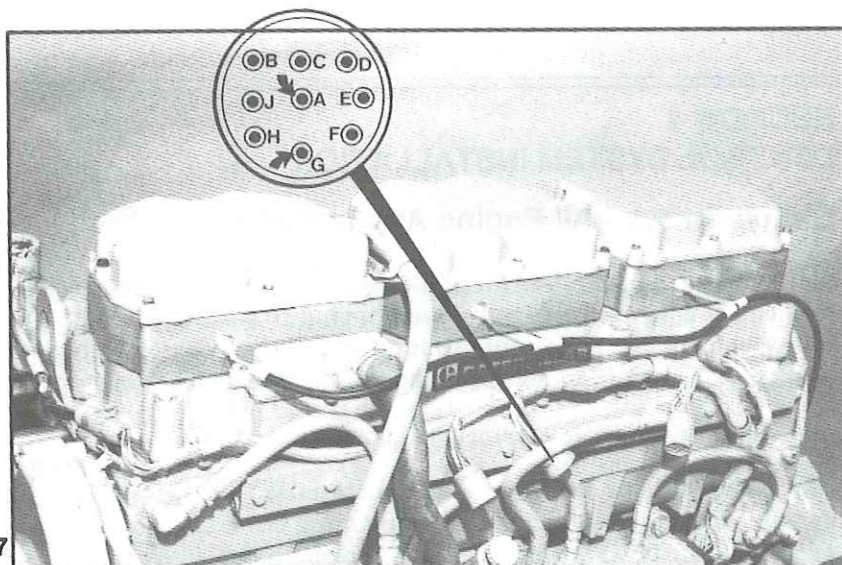

Fig. 27
5. Locate the J-7 electrical connector as shown in Fig. 27. Connect one wire from the clutch switch to a pin "A" in the J-7 electrical connector. The other clutch switch wire should be connected to pin "G" in the J-7 electrical connector. Pin "A" and "G" have "pigtail" wires coming from the connector. Butt splice the clutch switch wires to these "pigtails".